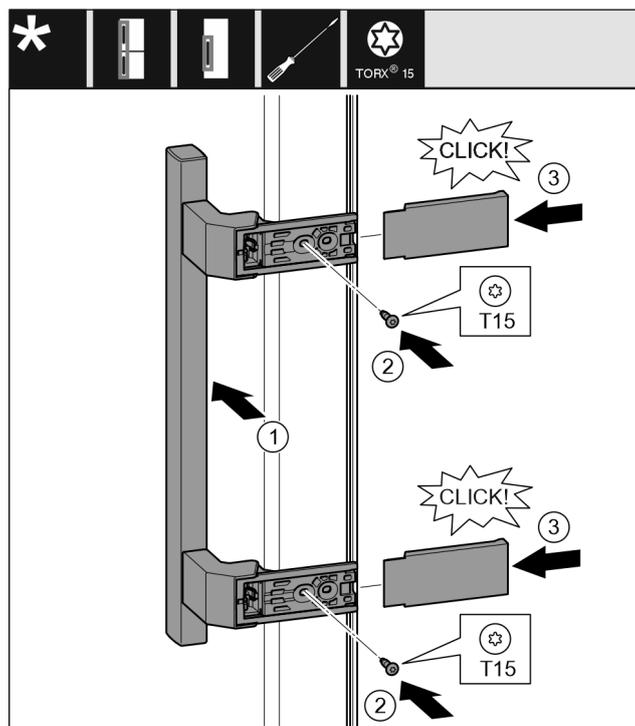

Fig. 20
- ▶ Attach the handle on the opposite side. Fig. 20 (1)
- ▶ Tighten the screws using a T15 screwdriver. Fig. 20 (2)
- ▶ Attach the covers on the sides and slide them on. Fig. 20 (3)